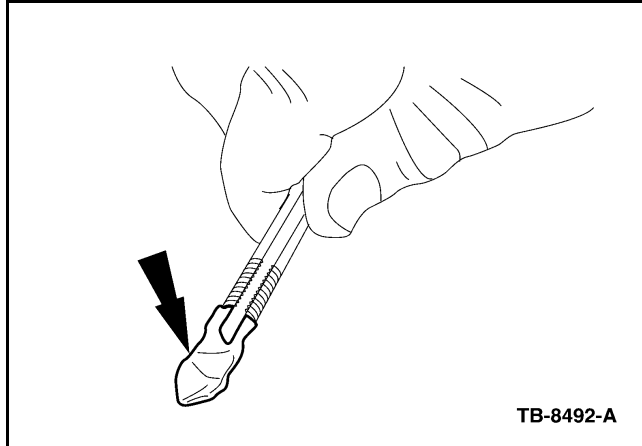

Figure 5 - Article 06-15-2
- a. Coat the end of the tap with general purpose grease as shown in Figure 5.